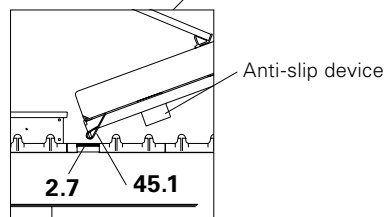

Fig. A9.12a
- The slide (45.1) on the underside of the platform is secured when positioned in the platform support (2.7) on the Main Beam SLT 375. (Fig. A9.12a)